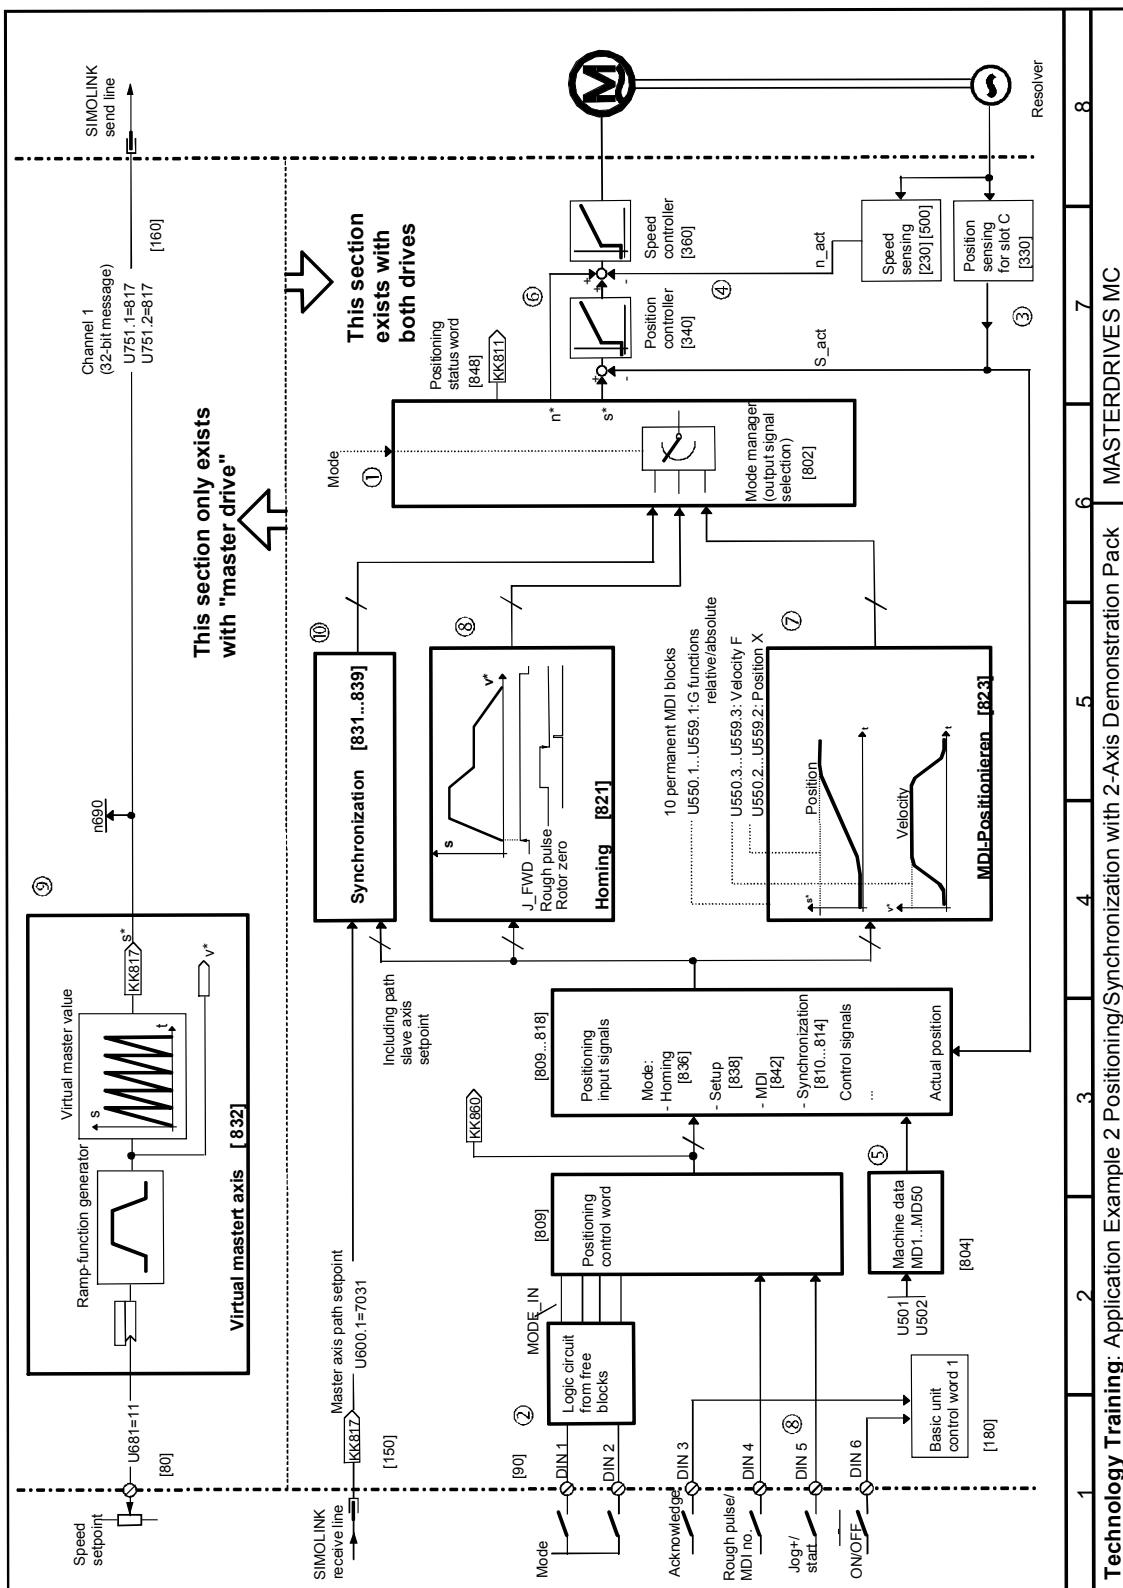

Fig. 9-47
The overview diagram in Fig. 9-47 shows how the technology functions are interconnected.
Fig. 9-47 shows the digital input assignments used in this example ②.